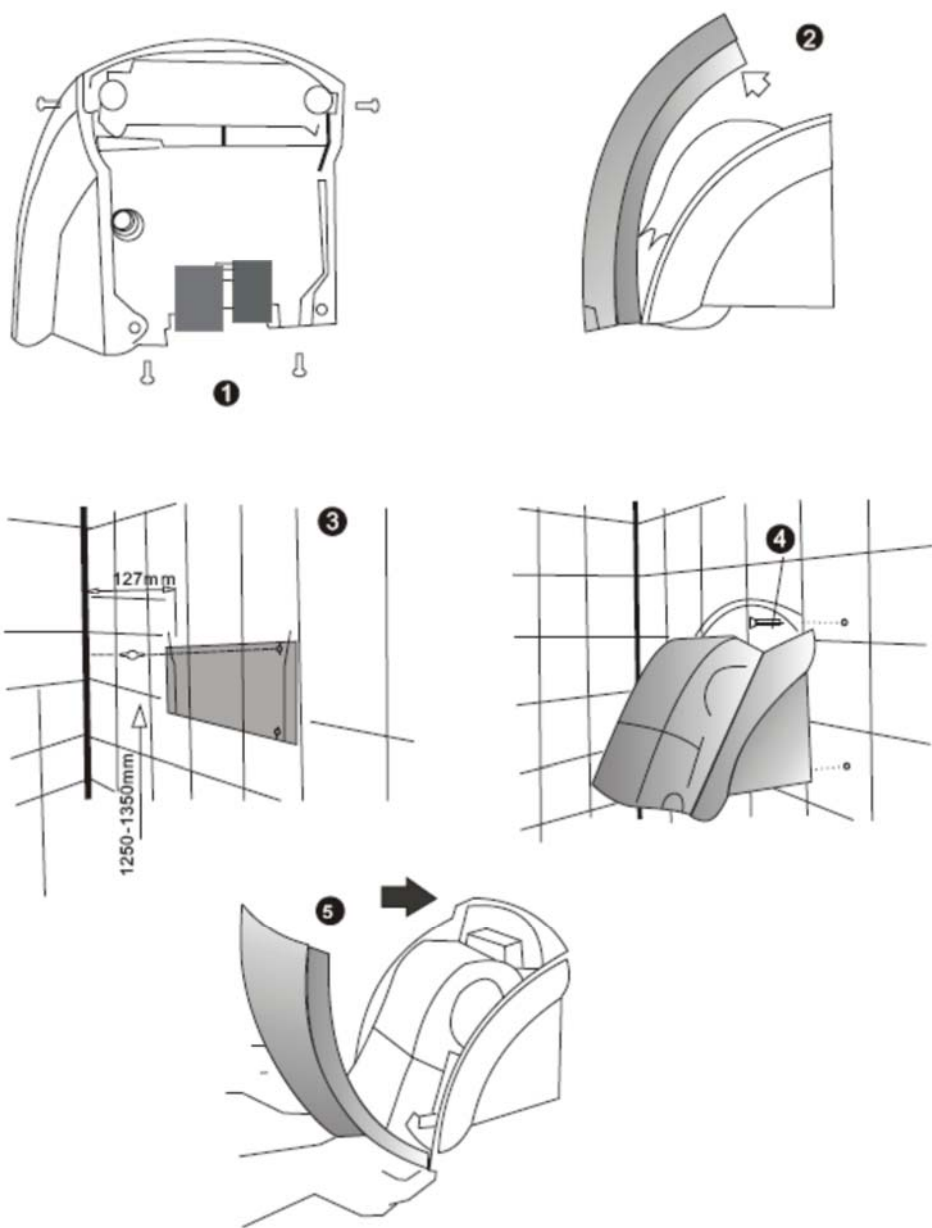

Figure 1
- a. Mark the four mounting points on the wall according to the dimensioned sketch in figure 1 and drill the mounting holes. Note the length and position of the power supply lead.